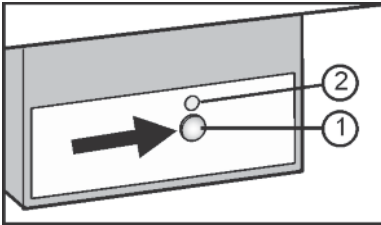

Fig. 11
- ▶ Press On/Off button Fig. 11 (1) so that the LED Fig. 11 (2) lights up.